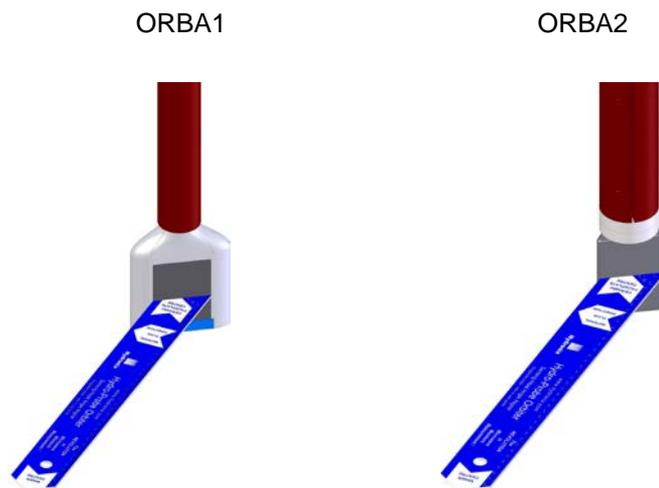

Figure 16: The Hydronix angle aligner for sensor face alignment
- The sensor should be attached along the scraper blade arm approximately 1/4 to 1/3 of the distance in from the wall of the mixer (see Figure 15). Select a position where the flow of material is the smoothest, and as far as possible free from the turbulence created by the mixer blades. The ceramic faceplate of the Sensing Arm should be angled at 55° to the centre of the mixer, which can be set using the aligner provided (see Figure 16 for further information).
- An angle of  $55^\circ$  generally provides good results. Use the angle aligner provided to set the angle (Figure 16).